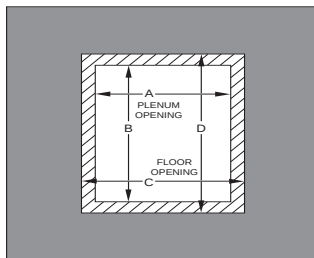

Fig. 15 – Floor and Plenum Opening Dimensions
2. Construct hole in floor per Table 4 and Fig. 15.
3. Construct plenum to dimensions specified in Table 4 and Fig. 15.
4. If downflow subbase is used, install as shown. If manufacturer's cased evaporator coil or coil casing is used, install as shown in Fig. 15.